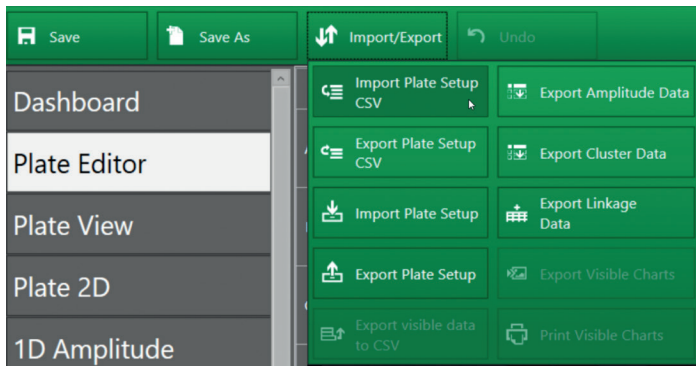
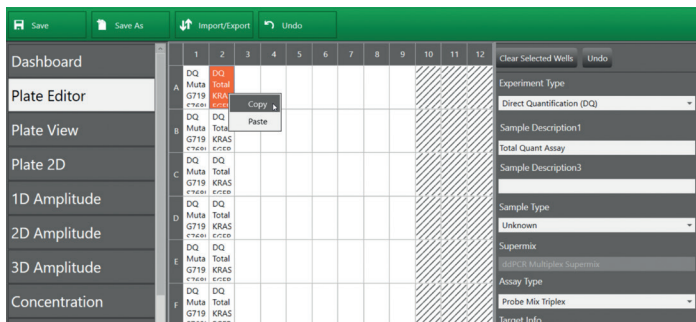

Fig. 7. Import Plate Setup button.
Fig. 8. Example of Plate Editor tab after importing Plate Setup CSV.
2. In the Plate Editor tab, import the ddPLEX EGFRKRASBRAF MT TQ Assays Template CSV file using the Import Plate Setup CSV button, as shown in Figure 7. This CSV file will autofill the Experiment Type, Sample Description 1, Assay Type, and Target Info for the first two columns. As shown in Figure 8, column 1 will default to the Mutant Assay and column 2 will default to the Total Quant Assay. If the plate layout differs, right clicking on any well after importing this CSV file will allow the user to copy and paste the associated well details and customize the plate layout.